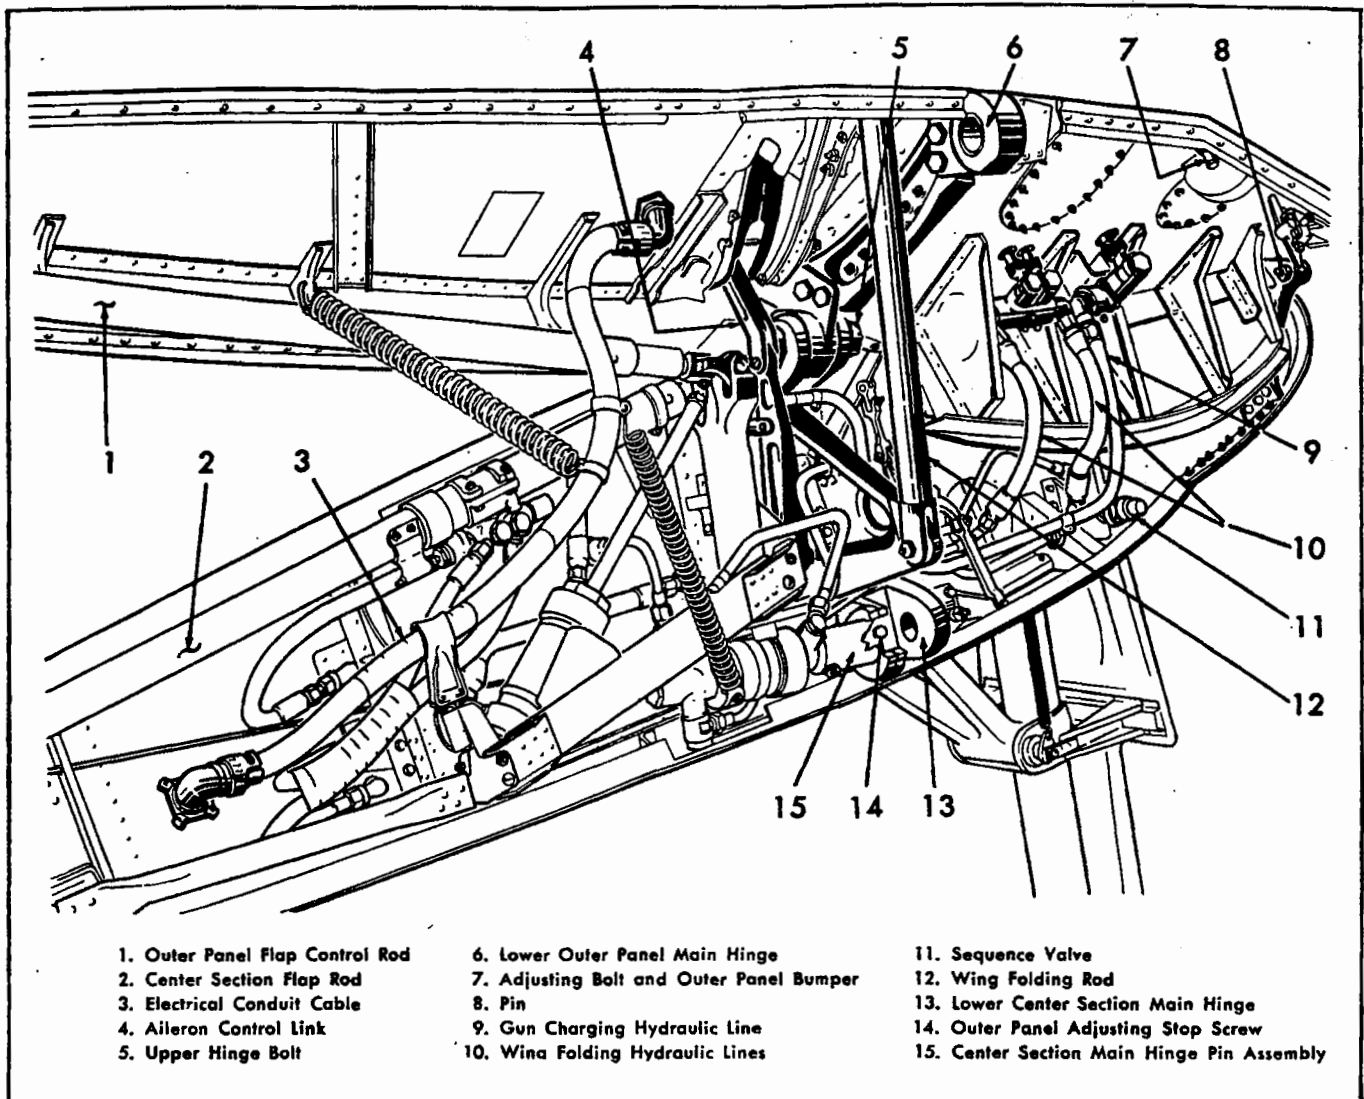

Figure 4-6. Wing Hinge Detail.
4-28. REMOVING. (See figure 4-6.)
damage during removal of the panel (see figure 4-6) gun charging hydraulic line (9), electrical conduit cable (3), and airspeed line (left hand side only).
f. Refer to figure 4-6. Disconnect the wing folding rod (12) at the center section support bracket, and then retract the hydraulic actuating cylinder up into the outer panel. Remove the wing folding hydraulic lines (10) and plug the lines.
g. Unsafety and remove the pin (8) through the leading edge auxiliary hinge.